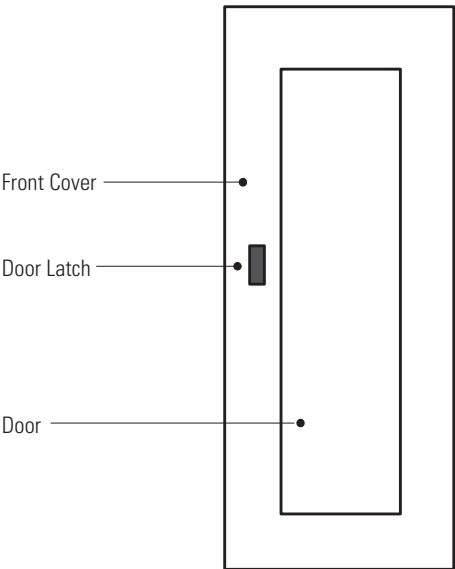
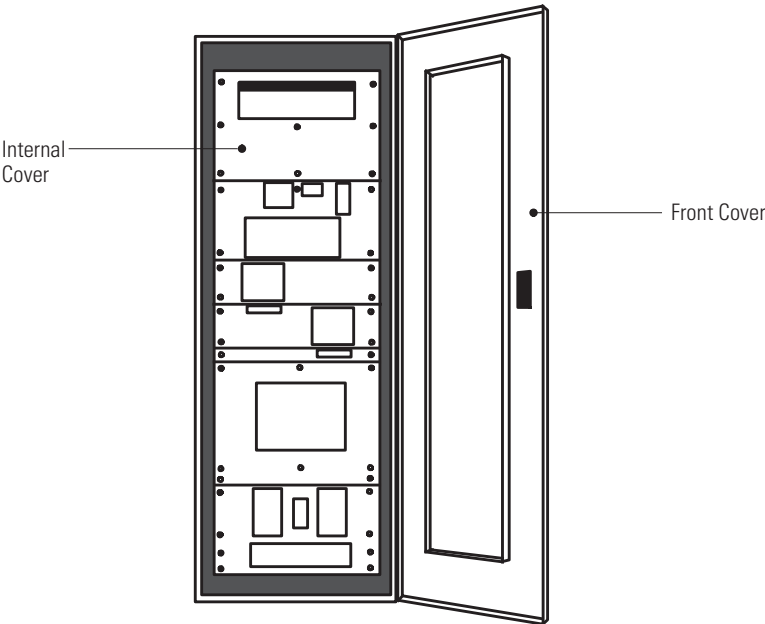

Figure 28. Version 2 Bypass Cabinet Front Door and Cover
Figure 29. Version 2 Bypass Cabinet Front Cover Open
5. Unfasten the bypass cabinet front door latch and swing the door open (see Figure 28).
6. Follow the instructions on the inside of the door to open or remove the front cover (see Figure 28 and Figure 29).